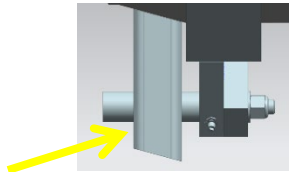

Figure 14: Clamp Ring Pivot Plate Weld Locations
- G. Grind weld on clamp pivot plate while preserving the clamp pivot plate base material, removing the double fillet weld, see Figure 14.